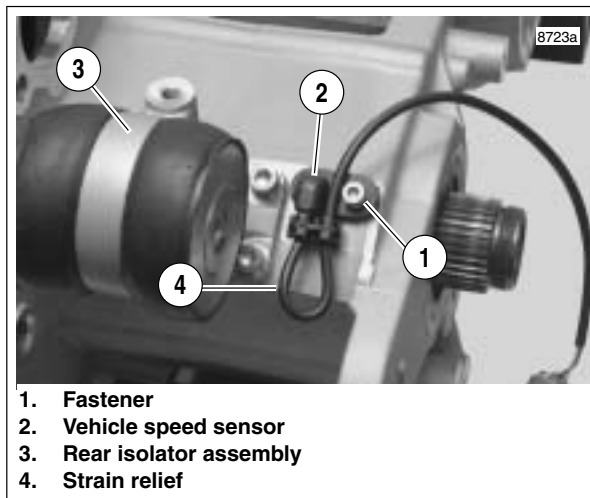

Figure 7-59. Speedometer Sensor
1. See Figure 7-59. Remove fastener (1) to detach vehicle speed sensor (2) from crankcase.
1. See Figure 7-59. Lube o-ring with engine oil and install fastener (1) to attach vehicle speed sensor (2) to crankcase and tighten to 90-110 in-lbs (10-12.4).